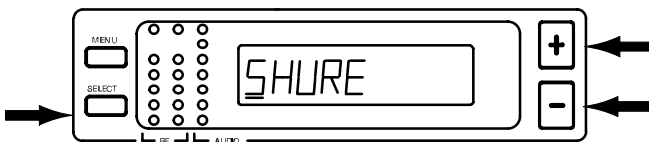

FIGURE 23
3. Press the SELECT button. An underline appears under the first character of the name. The factory pre-set Name display (SHURE) is shown in Figure 23.